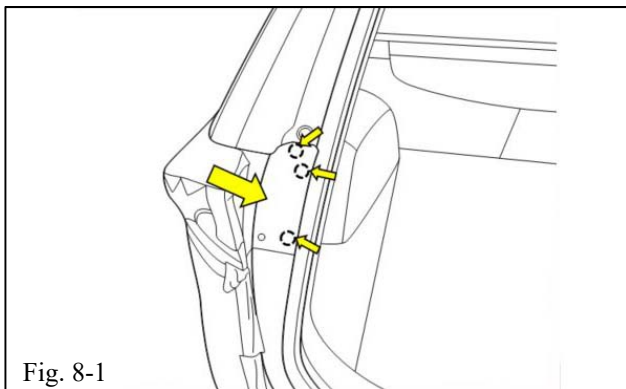

Fig. 8-1
- (a) Unclip (3) molded snaps holding the cover plate next to the tail lamp to access the bumper attachment screw (Fig. 8-1) (LH shown).